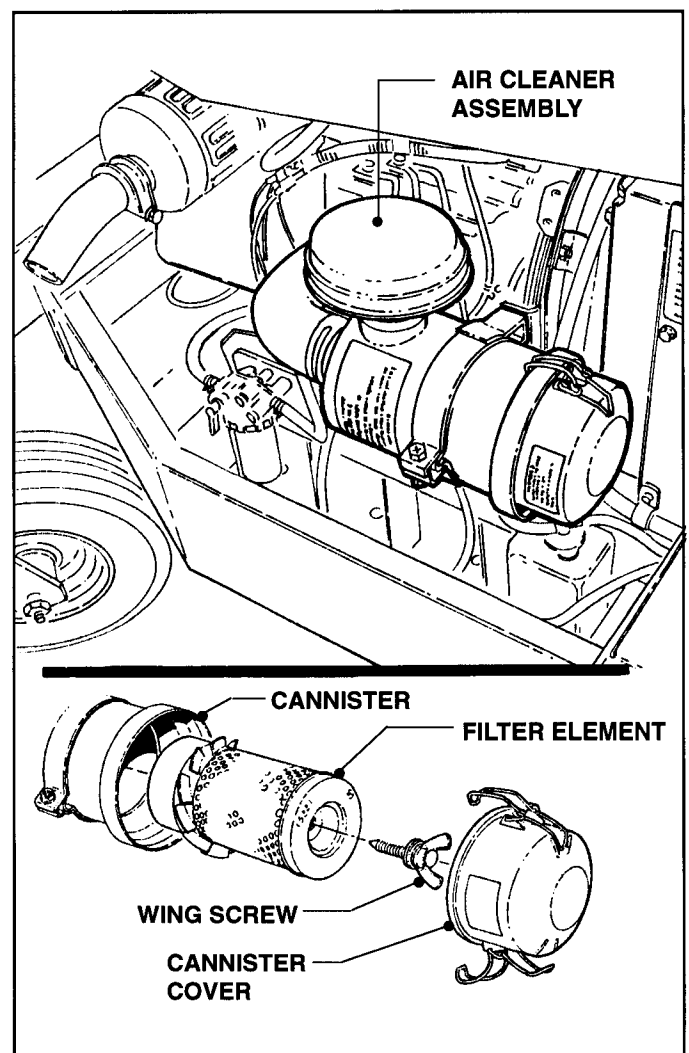

FIGURE 5.5
1. Remove Filter Cannister Cover. See Figure 5.5.
2. Remove Wing Screw and Filter Element (refer to Figure 5.5).